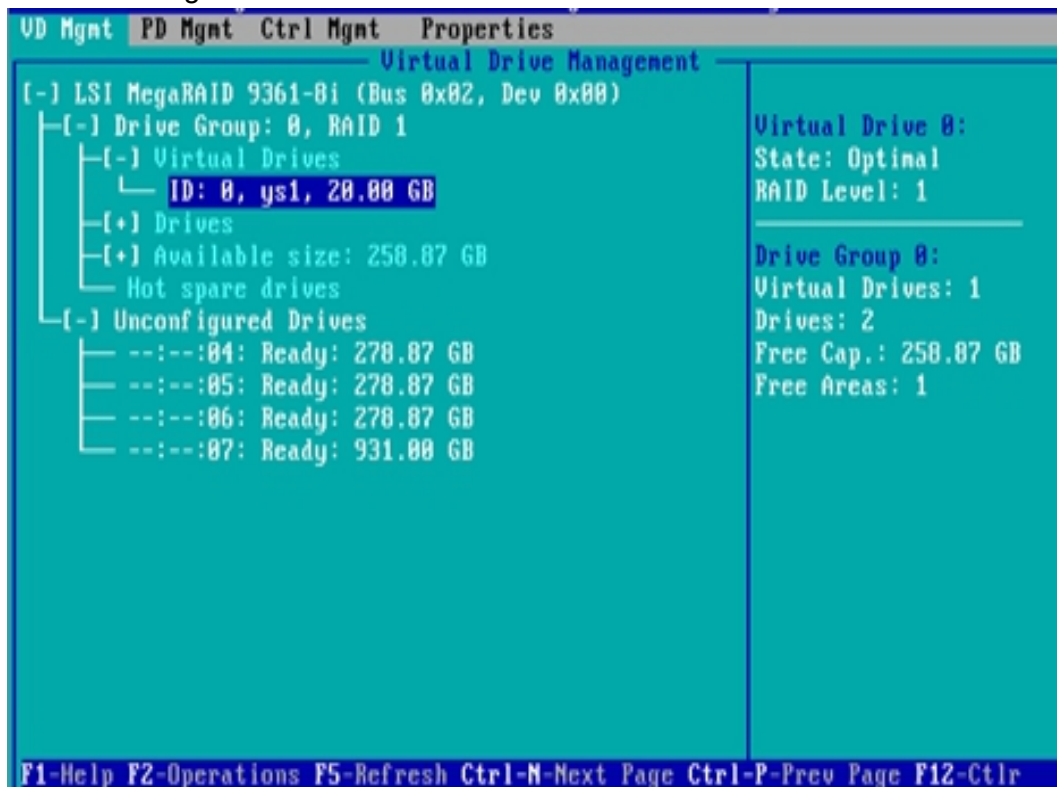

Figure 6-123
- a) As shown in figure 6-123, select the disk to be initialized in the VD MGMT interface and press F2.
- ✧ Figure 6-123 selecting the disk to be initialized